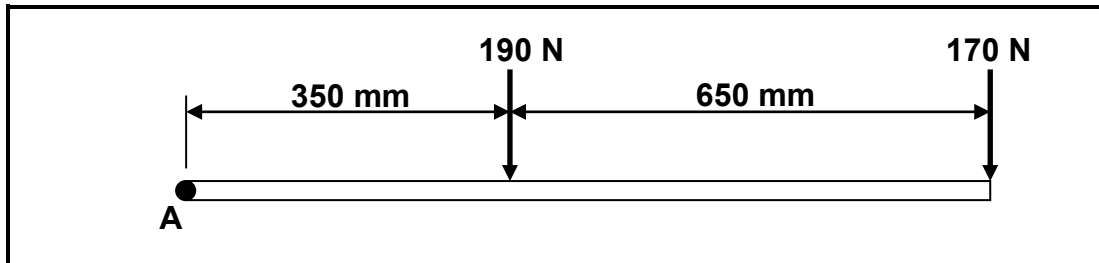

FIGURE 6.6
6.6 FIGURE 6.6 below shows a uniform beam onto which two perpendicular forces are exerted. Calculate the total moment around point A caused by the forces.